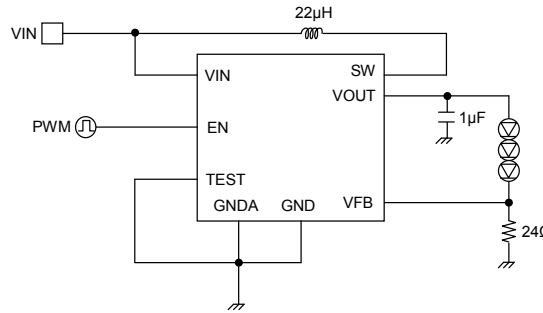

Fig.38 The brightness adjustment example of EN terminal by PWM (f_{PWM} = 100Hz ~ 300Hz)
1) PWM brightness adjustment is made by giving PWM signal to EN as shown in Fig.38.